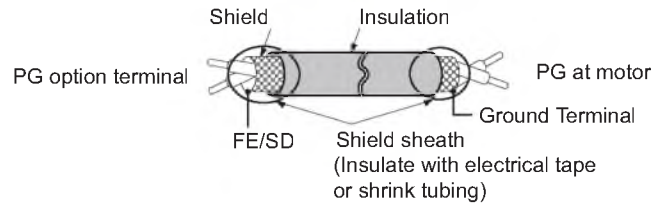

Figure 8.6 Preparing Ends of Shielded Cable
4. Prepare and connect the wire ends as shown in **Figure 8.6** and **Figure 8.7**. Refer to **Wire Gauges, Tightening Torque, and Crimp Terminals on page 303** to confirm that the proper tightening torque is applied to each terminal. Take particular precaution to ensure that each wire is properly connected and wire insulation is not accidentally pinched into electrical terminals.